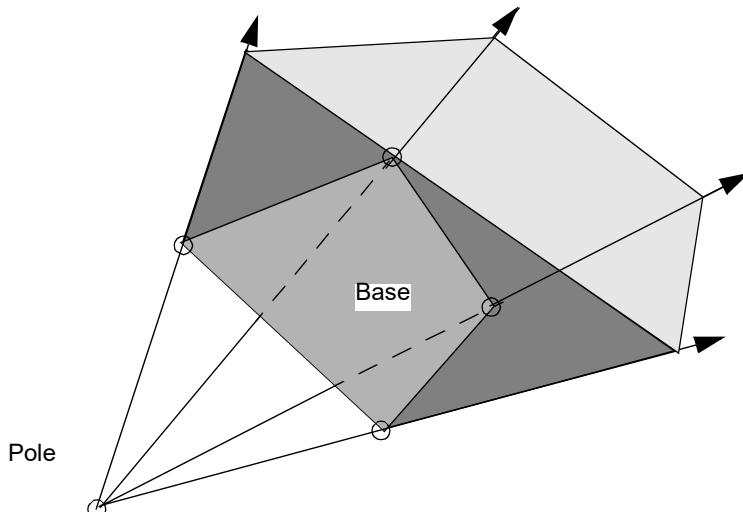

Figure 9-116 Geometry of Infinite Element
1. The location of the pole together with the connecting grid points of the element, define the geometry of the element, see Figure 9-116.